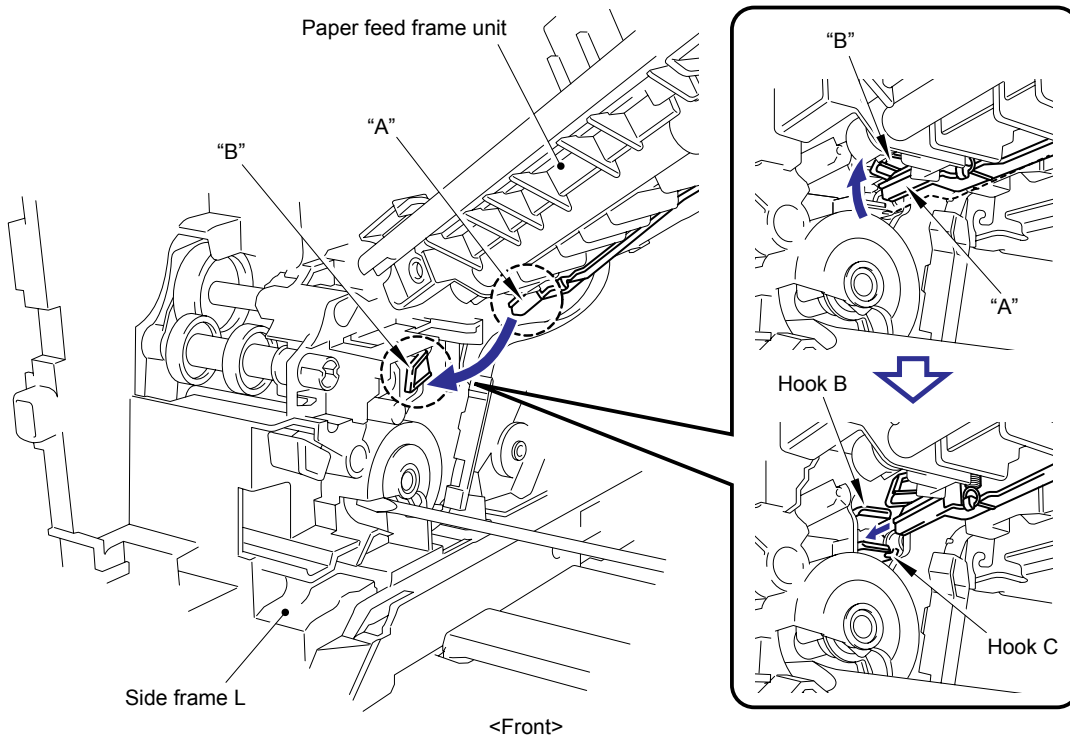

Fig. 3-183
- (1) Put the belt cleaner release sensor harness and belt cleaner release solenoid harness through the hole on the paper feed frame.
- (2) Put the two harnesses above and T1 PE/edge sensor harness through the PF CR harness holder and put them out of the hole on the Side frame L.
- (3) Hold the PU lift up cam with a Screwdriver or similar and push to the back of the machine . The section "B" shown in Fig. 3-183 in the next page can be moved up and down by this operation, which makes it easy to assemble the lift arm.